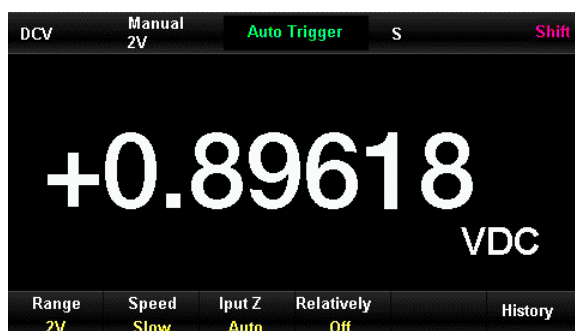

Figure 2-4 Interface of DC voltage measurement
- 1) Press  button to enter interface of DC voltage measurement as Figure 2-4.